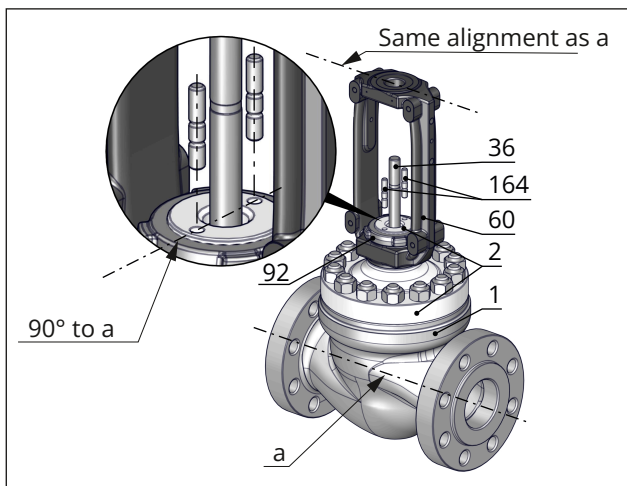

Fig. 16: Alignment of bonnet on the valve body and alignment of yoke on the bonnet
3. Screw tight the holder (302) using the screws (306) and washers (308). Observe the tightening torques specified in Table 7.
4. Place the yoke (3) on the bonnet in such a way that the two holes on the top of the bonnet are aligned with the open sides of the yoke (see Fig. 16).
5. Fasten the yoke (3) using the castellated nut (92).
- a) Place the packing flange (162) over the studs (164) of the valve bonnet (2/21) on the packing follower (8).
- b) Thread the two packing nuts (163) (including disk springs when packing flange is loaded by external spring elements) onto the studs (164) and finger-tighten them. In the version with spring-loaded packing, the packing nuts (163) must be guided through the holes in the packing flange.